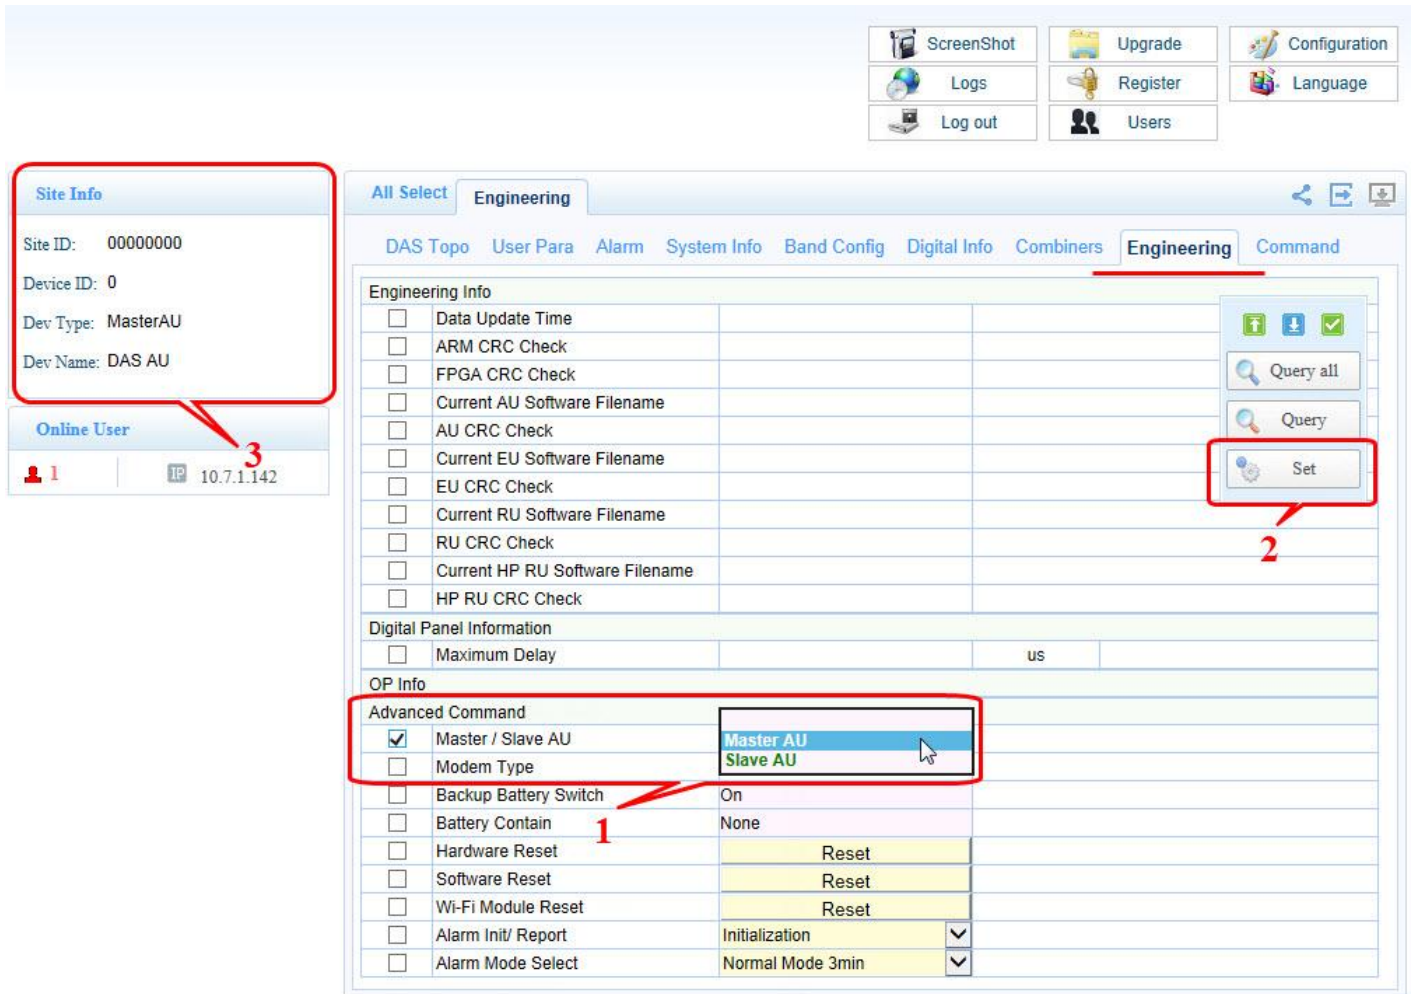

Figure 3-6 Master / Slave AU Selection
Each AU is factory-set to be the Master AU. See Figure 3-6 and the procedure below to set or change an AU to Master or Slave.
2. View the **Site Info** field. See **3** in Figure 3-6.